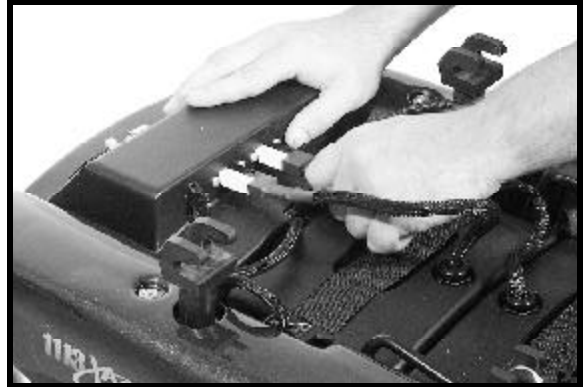

Figure 16. Disconnect Battery Boxes
2. Disconnect the battery box connectors from the electronics tray. See figure 16.